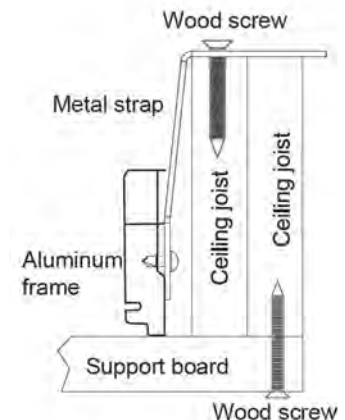

FIGURE 15
L. Installer #2: Unfold the 14" metal straps and bend them over the adjoining ceiling joists. Screw them in place with the wood screws (1/4" x 1-1/2") passing through the 1/4" diameter hole in the metal strap and into the wood joists. See **Figure 14** and **Figure 15**. Be sure the straps are taught to support the weight of the attic ladder.